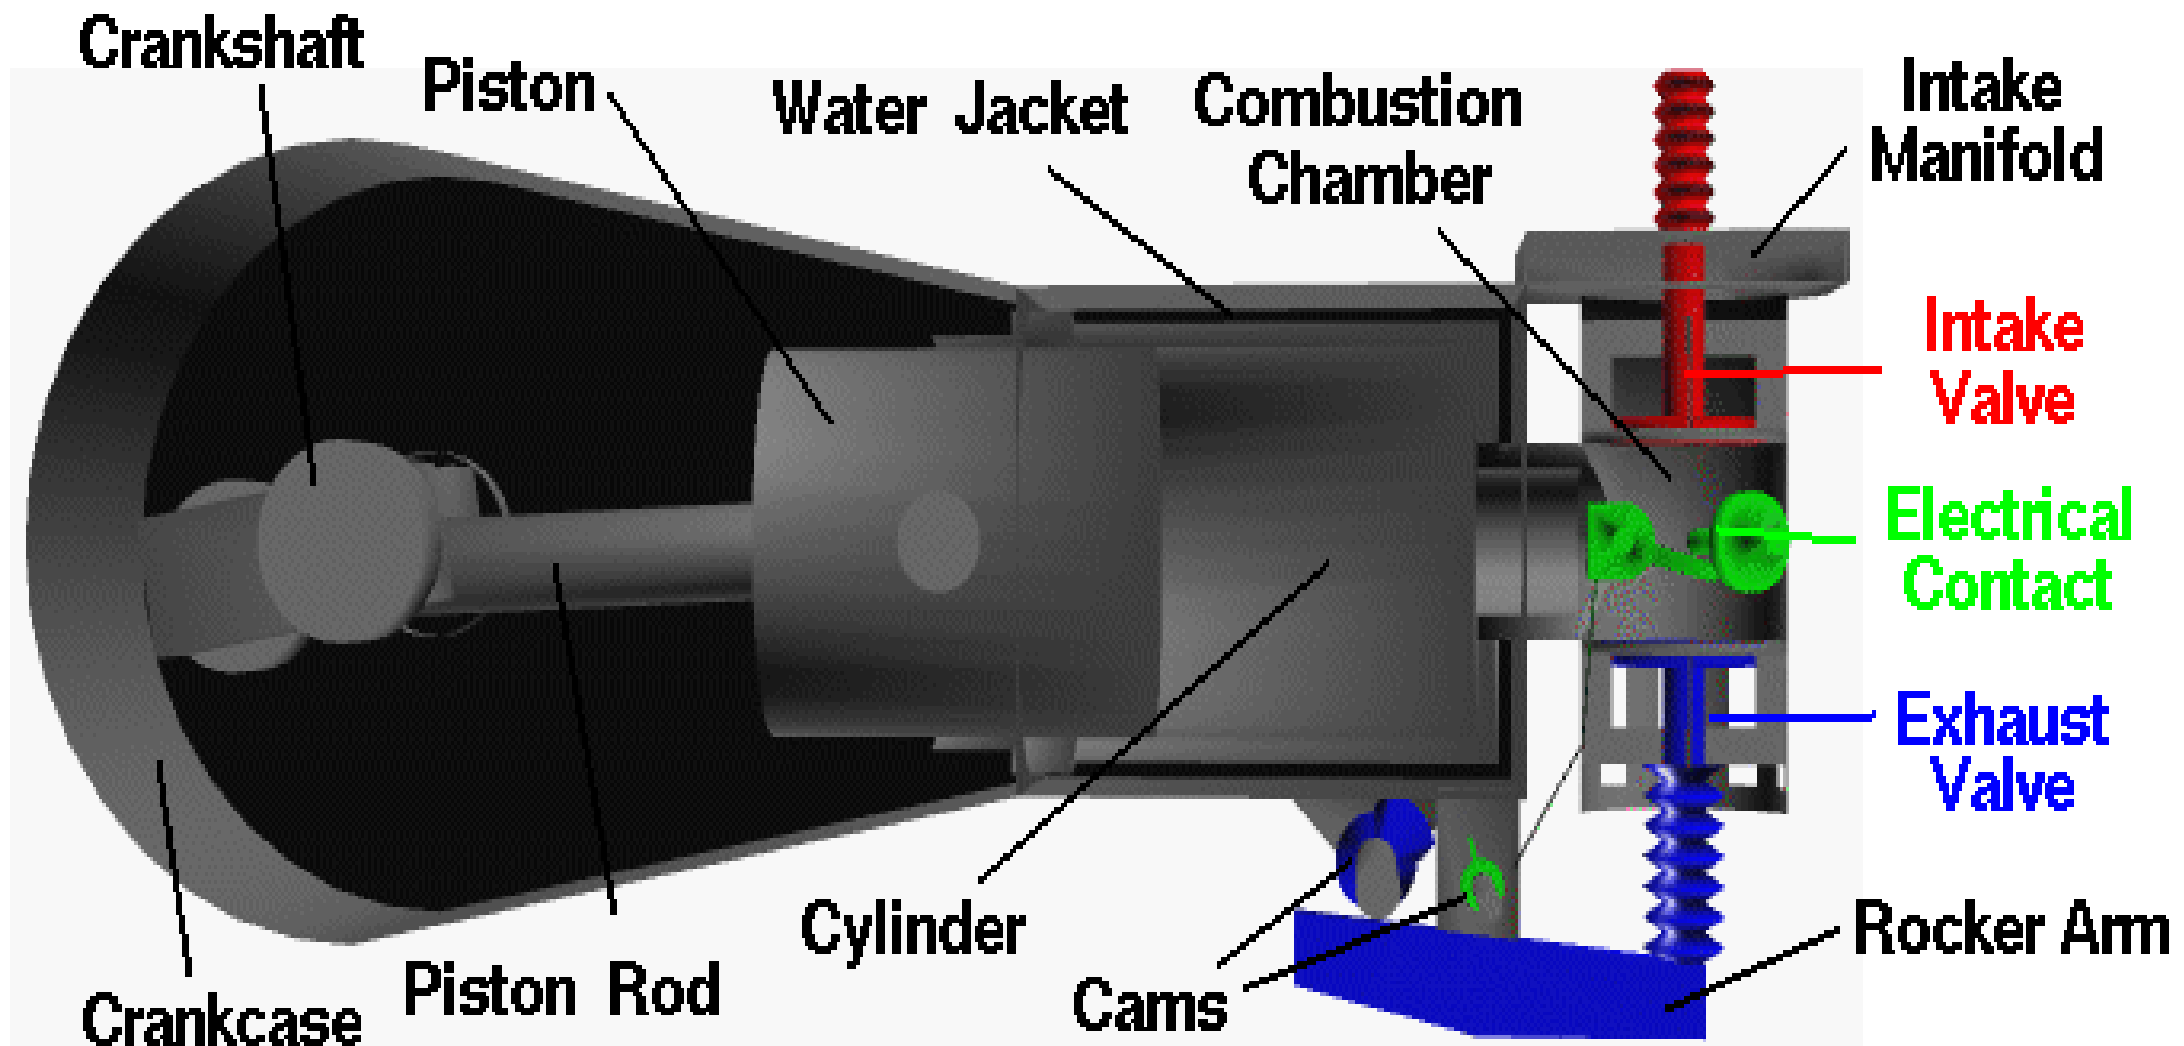

Figure2: Engine components
I.C. Engine components shown in figure1 and figure2 are defined as follows: